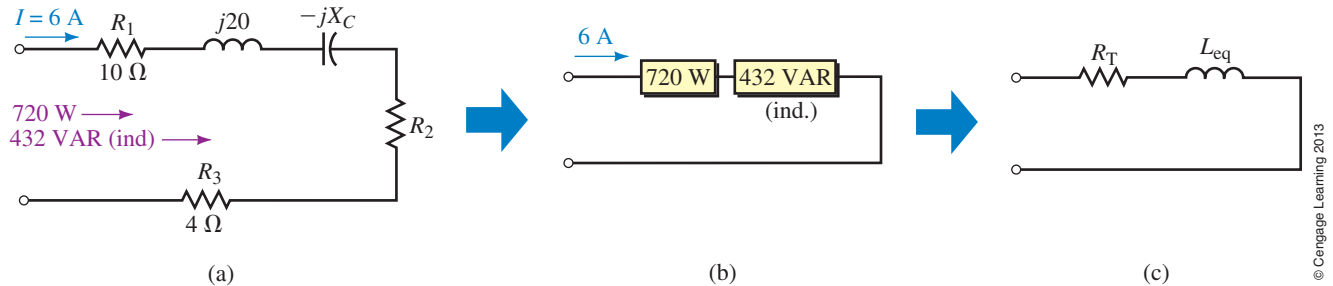

FIGURE 17-44
15. For Figure 17-44, $\omega = 10$ rad/s. Determine